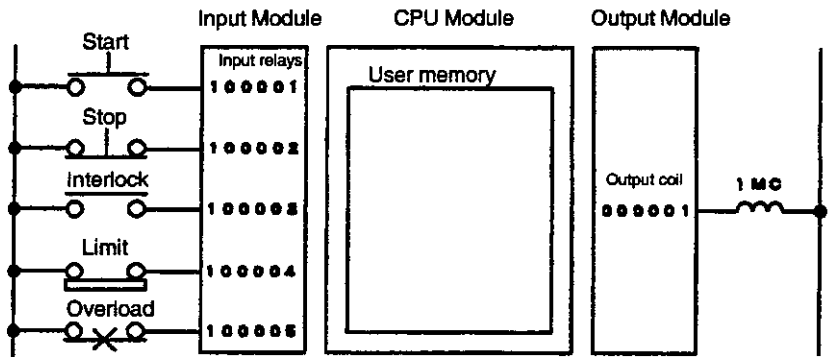

Figure 1.2 Allocation of Reference Numbers to I/O Signals
2) Reference numbers for I/O signals are allocated as shown in Figure 1.2.